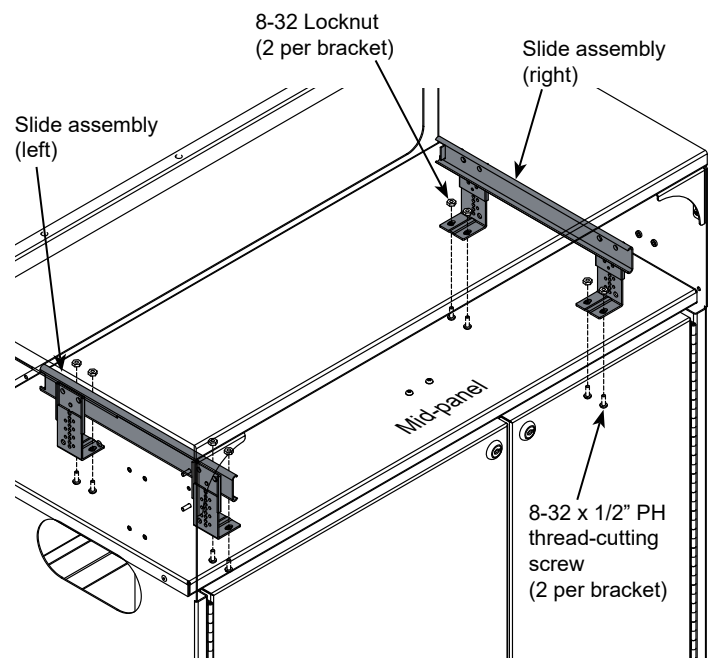

Figure 3.2
1. Align and attach the left and right slide assemblies with 8-32 x 1/2" PH thread-cutting screws, but do not tighten completely. **Figure 3.2.**